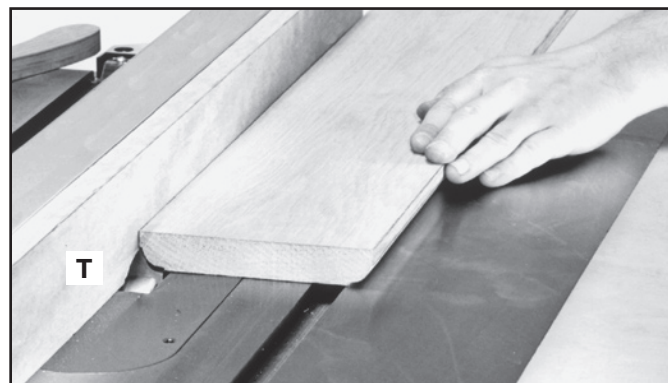

FIG. 72
2. When using the molding cutterhead, add wood-facing (T) to the face of the rip fence (Fig. 72). Attach the wood facing to the fence either with wood screws through holes drilled in the fence, or with two clamps. Stock that is 3/4" (19 mm) thick is suitable for most work, although an occasional job may require 1" (25 mm) facing.